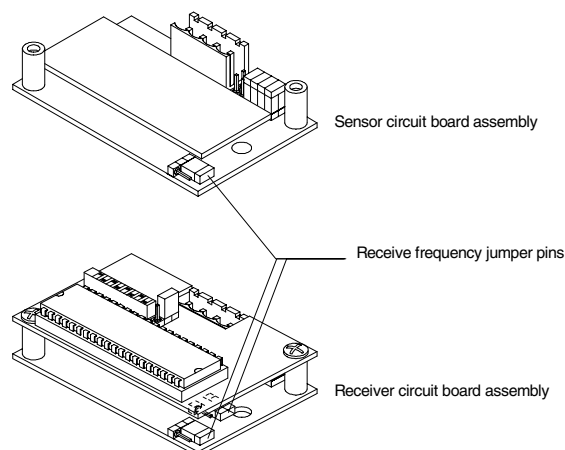

FIG. 9 Receive frequency jumper pins set at the default setting for receiving 38 kHz
Perform the following steps (see FIG. 9) to set the receive frequency:
1. Use the set of jumper pins (one set on the sensors and two sets on the receivers-see FIG. 9) on the corner of the circuit boards to set the receive frequency. FIG. 10 illustrates the positioning of the jumpers.
2. Position the IR validation jumper (Figure 9) to select the number of valid IR data repetitions to be accepted: